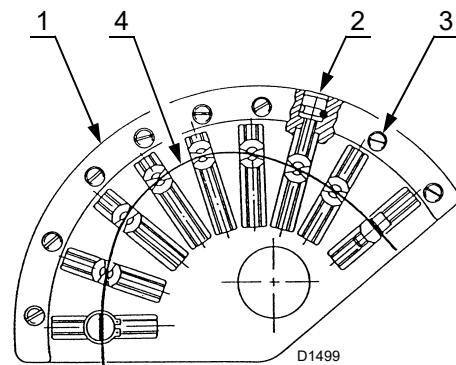

Fig. 33
act on the adjustment screws 2)(Fig. 33) after having loosened the screws 3).
Use the adjusters 2)(Fig. 33) after loosening the screws 3).
### Key (Fig. 33)
- Calibrate the air delivery by adjusting the variable profile cam with the screws 2)(Fig. 33).
- With the optimal adjustment achieved, remember to lock the adjustment screws of the cam profiles by means of screws 3)(Fig. 33).